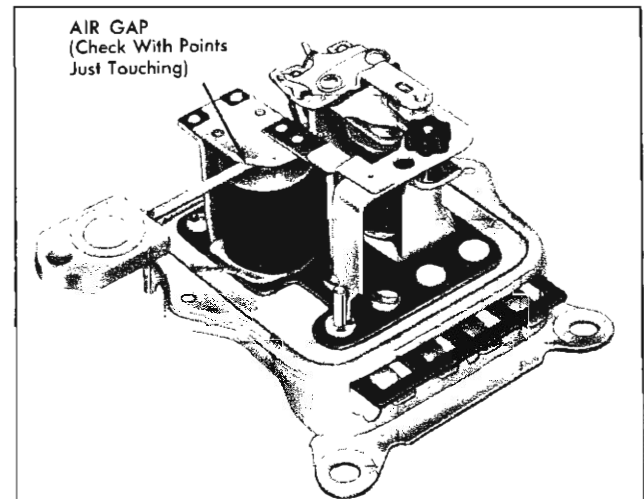

Fig. 35—Checking Field Relay Air Gap
2. **Air Gap:** Check the air gap with the points just touching (fig. 35). The air gap normally need not be adjusted. If the point opening and closing voltages are within specifications, the relay will operate satisfactorily even though the air gap may not be exactly according to specifications. If adjust-